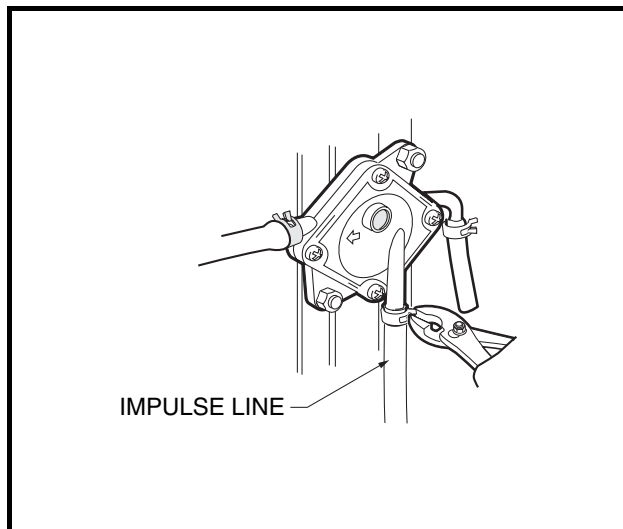

Figure 16-11 Impulse Line
4.3. Disconnect impulse line from fuel pump (**Figure 16-11, Page 16-7**).